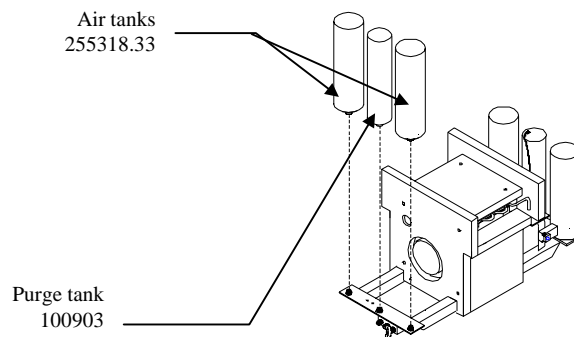

Figure 11
- Remove the housing assembly and remove both air tanks and the purge tank by unscrewing each tank counter clockwise and pulling them straight up (figure 11)